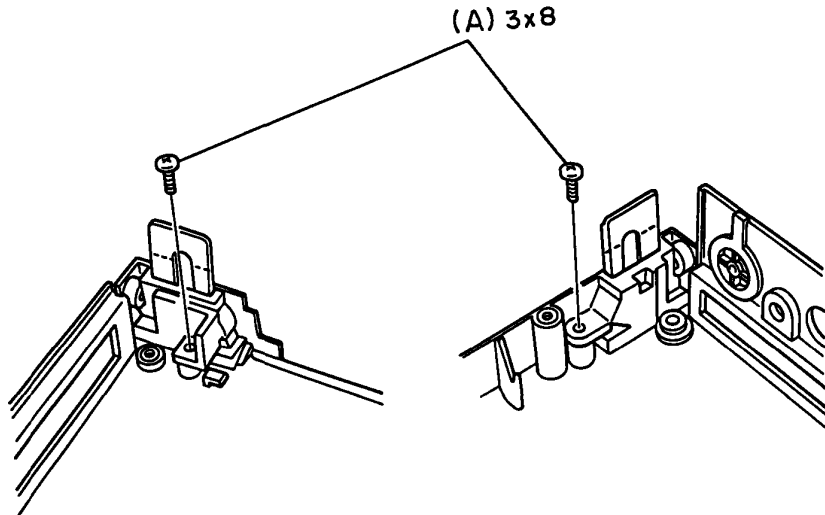

Figure 4-29 Removing the legs
2. Remove the two screws (A). Break off the legs at the dotted line shown in figure 4-29, and take them off from the bottom cover.